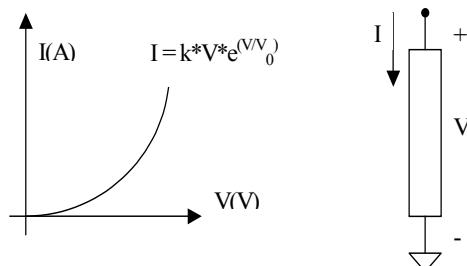

Figure 0.12 Fictive device whose equivalent resistance is to be calculated.
- a. First, consider the fictive device whose I-V characteristic is given in Figure 0.12. Constant k has the dimension of S (or Ω^{-1}). V_0 is a voltage characteristic to the device. Calculate the equivalent resistance for an output voltage transition from 0 to $2V_0$ by integrating the resistance as a function of the voltage.